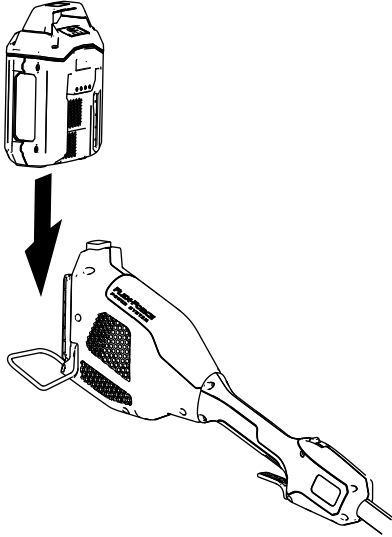

Figure 5
2. Align the cavity in the battery pack with the tongue on the handle housing (Figure 5).